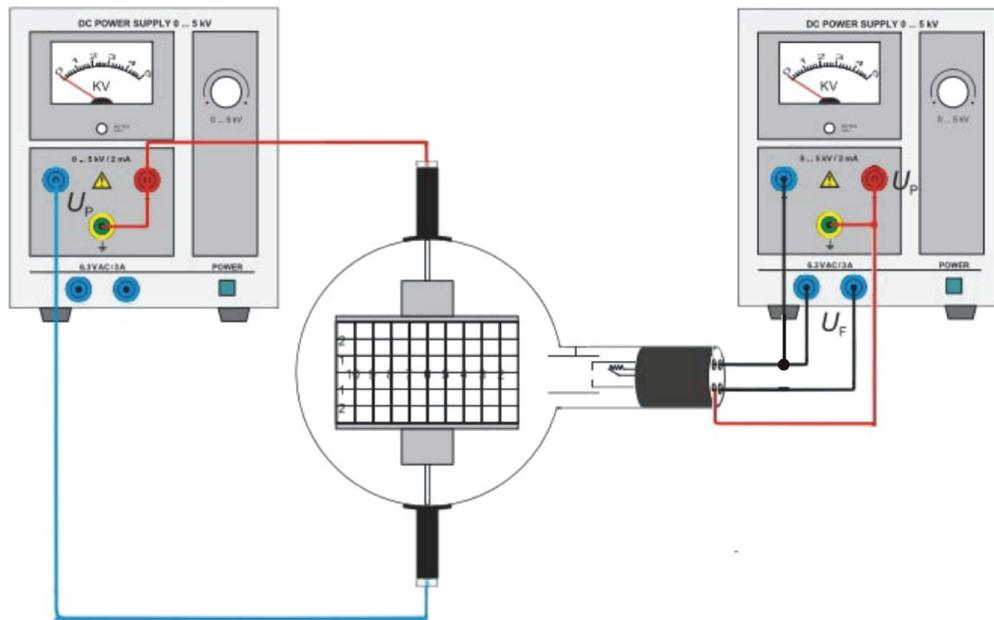

Fig.3 Electric deflection
- Set up the tube as in Fig 3. Connect the anode, the cathode and the filaments to a high voltage power supply with test leads. Connect deflection plates to another high voltage power supply.
- Set up the experiment as in Fig 3.